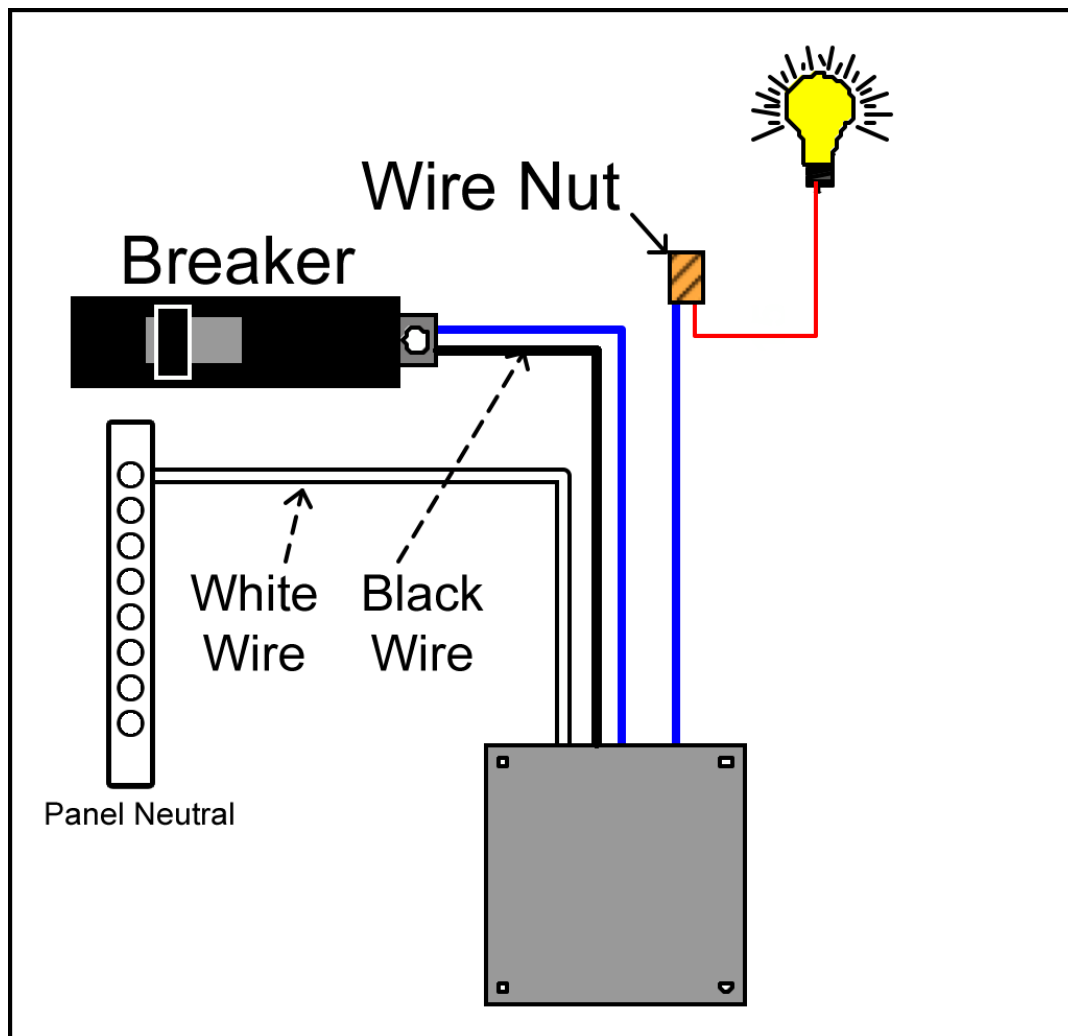

Figure 3.2: Input Power Wiring
- c. Using one of the included wire nuts, connect the *original* load wire that was in the breaker to the other side of the same color-coded ModelMinder control wire. (Figure 3.2)
ModelMinder Power Connection with a Standard Breaker (Figure 3.2)
- e. Connect the BLACK power wire from the ModelMinder to the breaker side of any of the controlled circuits [Note: Must be 115VAC only]. (Figure 3.2)
- f. Connect the white input power wire from the ModelMinder to the panel neutral. (Figure 3.2)